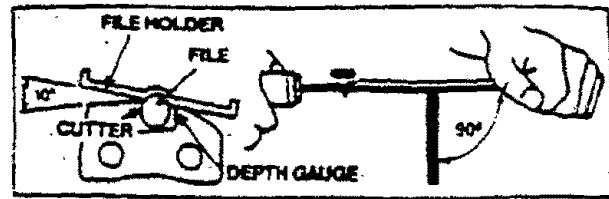

Figure 28
- a.) Position flat side of file holder (with 5/32" round file) on cutter top plate and depth gauge. Figure 28.